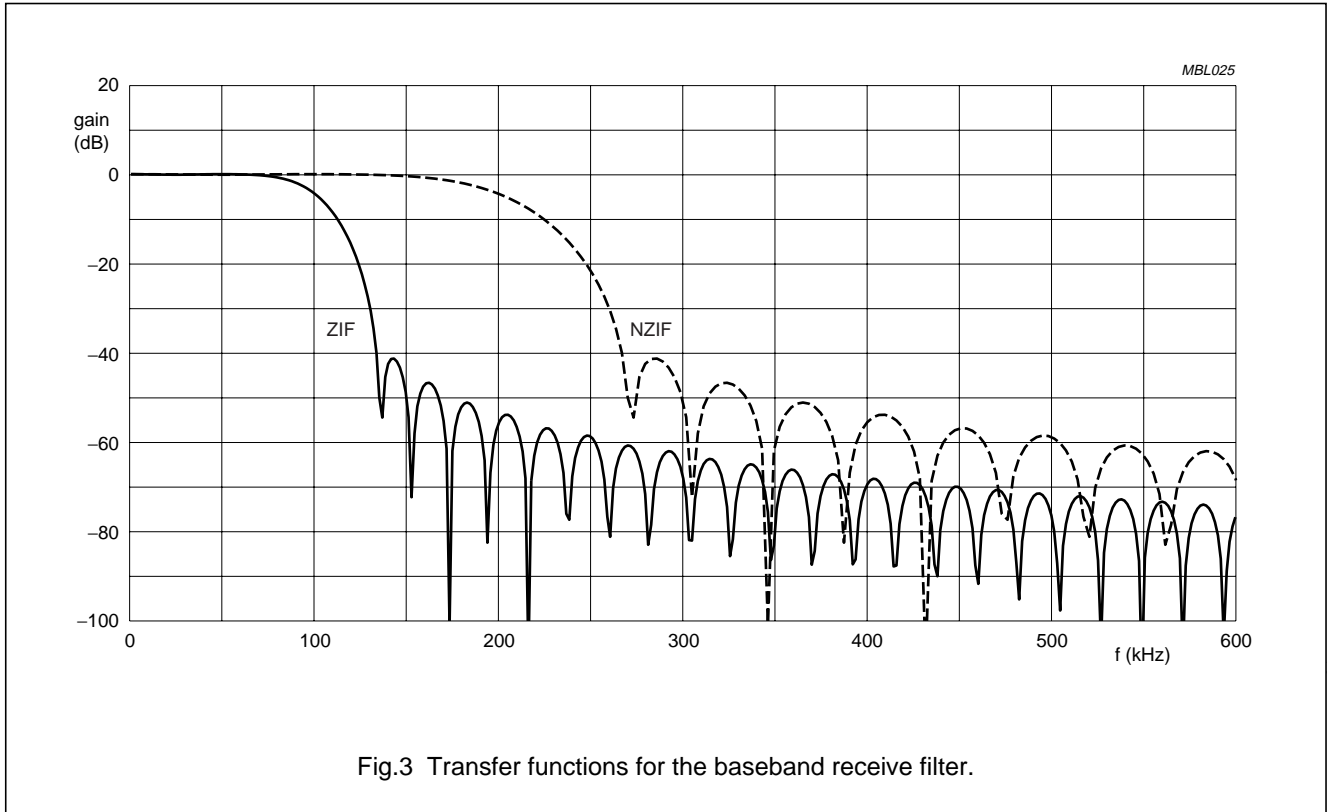

Fig.3 Transfer functions for the baseband receive filter.
- **ZIF (zero IF) mode** for radio sections, which convert the receive signal down to baseband. In this mode the ADC is sampled at 6.5 MHz, the decimation filter samples down by a factor of 24 with a pass band as specified in Fig.3. The serial interface output BDIO delivers 2×12 -bit values for I and Q components at 270.833 kHz.
- **NZIF (near zero IF) mode** for radio sections, which converts the receive signal down to a centre frequency of 100 kHz. In this mode the ADC is sampled at 13 MHz, the decimation filter samples down by a factor of 24 with a pass band as specified in Fig.3. The serial interface output BDIO delivers 2×12 -bit values for I and Q components at 541.667 kHz.